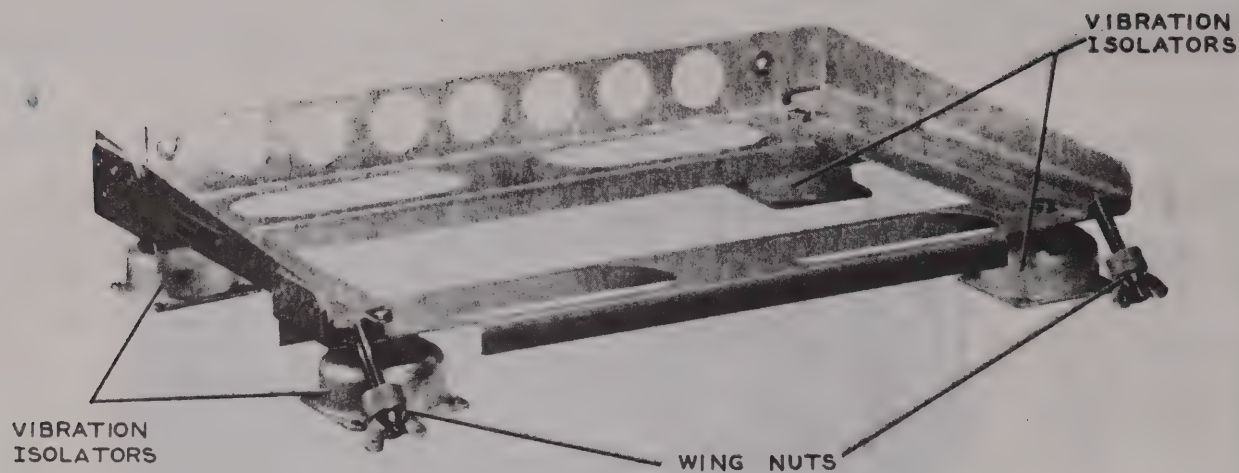

Figure 1-4. Mounting MT-1518/ARR-41, Top Oblique View
**1-19. MOUNTING MT-1518/ARR-41.** (Refer to figure 1-4.) Mounting MT-1518/ARR-41 is a corrosion-resistant aluminum mounting with steel spring-type vibration isolators mounted at each corner. The mounting is attached to a metal shelf by means of number 8 screws, lock washers, and nuts. Grounding straps are provided for mounting under the vibration isolator feet to provide good electrical contact.